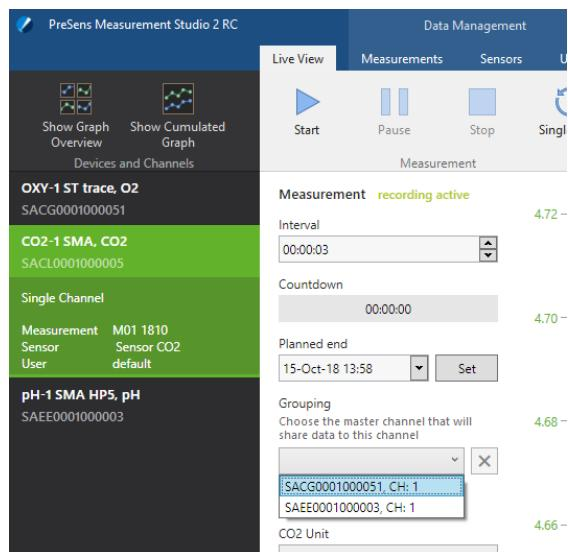

Fig. 63 Setting the Slave channels
1. Select a Slave channel in the **Devices and Channels** section (Single Channel of CO2-1 SMA in Fig. 63).
2. Click on the drop down list below **Grouping** on the Live View screen of this channel and select the Master (Device serial number of OXY-1 ST trace in Fig. 63).